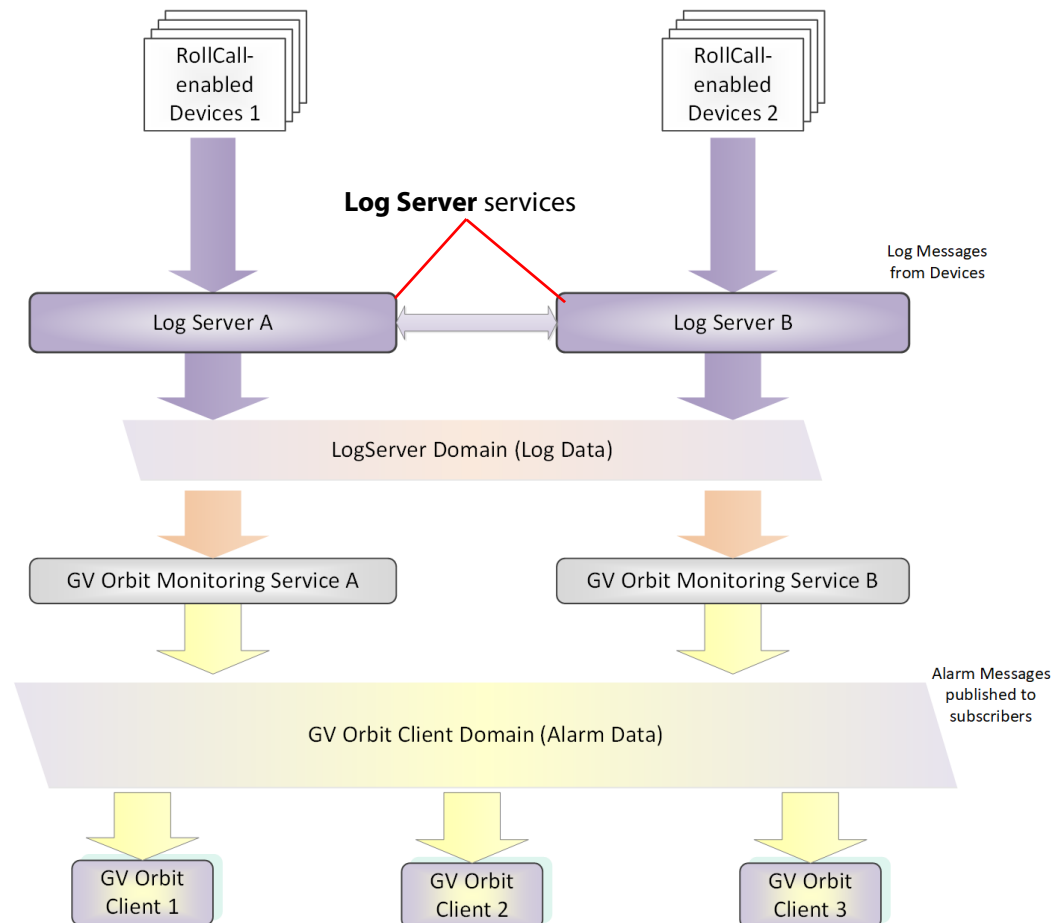

Fig. 27: GV Orbit Log Server System
A typical control and monitoring system that uses the **Log Server** service is shown in Figure 27. The example is for a dual-redundant implementation; single **Log Server** service implementations are possible.
**Log Server** services A and B in Figure 27 operate in a dual-redundant manner. The services manage the synchronization of all data between them. If service A or B were to go down, then the other service is ready to take over.